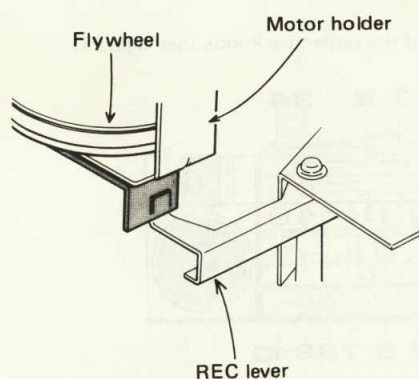

Fig. 6
- 3) When mounting the deck B, make sure that the REC lever is set to the illustrate position. (See figure 6)